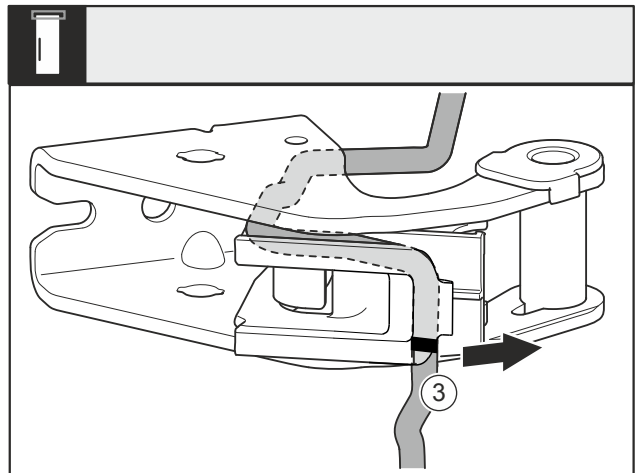

Fig. 28
- ▶ Remove the cable with the cable holder Fig. 28 (3) from the swap bearing block.